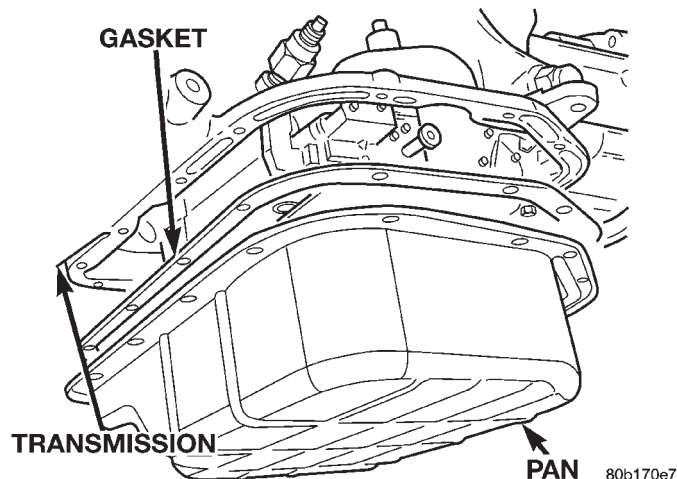
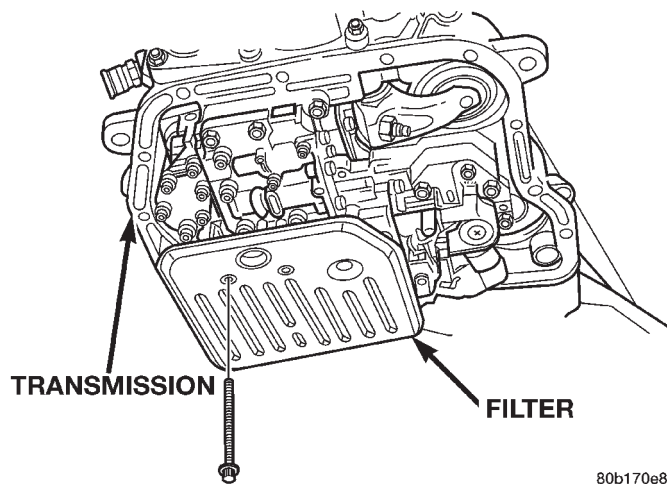

Fig. 14 Transmission Pan
Fig. 15 Transmission Filter
- (1) Hoist and support vehicle on safety stands.
- (2) Place a large diameter shallow drain pan beneath the transmission pan.
- (3) Remove bolts holding front and sides of pan to transmission (Fig. 14).
- (4) Loosen bolts holding rear of pan to transmission.
- (5) Slowly separate front of pan away from transmission allowing the fluid to drain into drain pan.
- (6) Hold up pan and remove remaining bolts holding pan to transmission.
- (7) While holding pan level, lower pan away from transmission.
- (8) Pour remaining fluid in pan into drain pan.
- (9) Remove screws holding filter to valve body (Fig. 15).
- (10) Separate filter from valve body and pour fluid in filter into drain pan.
- (11) Dispose used trans fluid and filter properly.
- (1) Place replacement filter in position on valve body.
- (2) Install screws to hold filter to valve body (Fig. 15). Tighten screws to 4 N·m (35 in. lbs.) torque.
- (3) Place new gasket in position on pan, and install pan on transmission.
- (4) Place pan in position on transmission.
- (5) Install screws to hold pan to transmission (Fig. 14). Tighten bolts to 17 N·m (150 in. lbs.) torque.
- (6) Lower vehicle and fill transmission with Mopar® ATF Plus 3, type 7176 fluid.